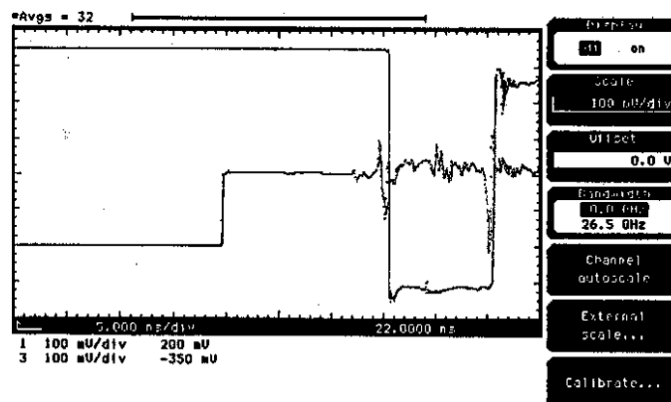

Figure 6: Initial Setup Waveforms
6. At this point you should see two waveforms displayed on the scope's screen. See Figure 6. The yellow trace (channel 1) is the scope's TDR pulse. The various spikes, etc., seen on the 200 mV TDR pulse yellow trace are the "kick-out"
from the 4015's high-voltage pulse generator. If the 4015C rep. rate control is set to single pulse (or the cable is disconnected from the 4015B trigger input), then these spikes will disappear. The violet trace (channel 3) is the attenuated -9 V, 15 ps pulse from the 4015 pulse generator. If you are using a 4015B, this is a 10 ns wide rectangular pulse. If you are using a 4015C, then the pulse is flat at -9 V for 5 ns followed by a slow exponential decay. Figure 6 shows a 4015B pulse.
6. At this point you should now see two waveforms displayed on the scope's screen. See Figure 6. The yellow trace (channel 1) is the scope's TDR pulse. The various spikes, etc., seen on the 200 mV TDR pulse yellow trace are the "kick-out" from the 4015's high-voltage pulse generator. If the 4015C rep. rate control is set to single pulse (or the cable is disconnected from the 4015B trigger input), then these spikes will disappear. The violet trace (channel 3) is the attenuated -9 V, 15 ps pulse from the 4015 Pulse Generator. If you are using a 4015B, this is a 10 ns wide rectangular pulse. If you are using a 4015C, then the pulse is flat at -9 V for 5 ns followed by a slow exponential decay. Figure 6 shows a 4015B pulse.